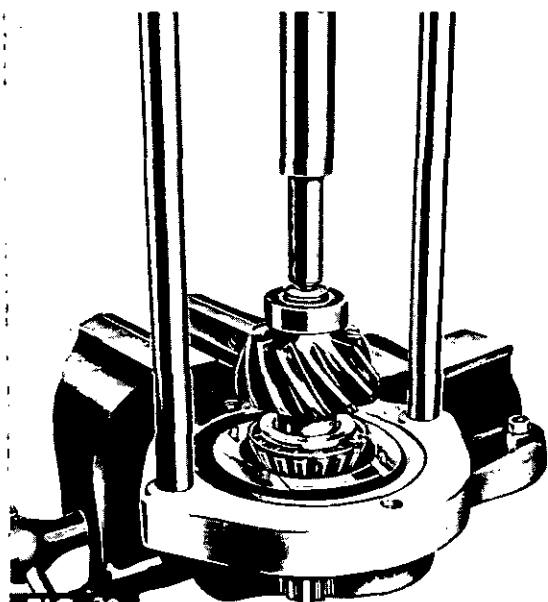
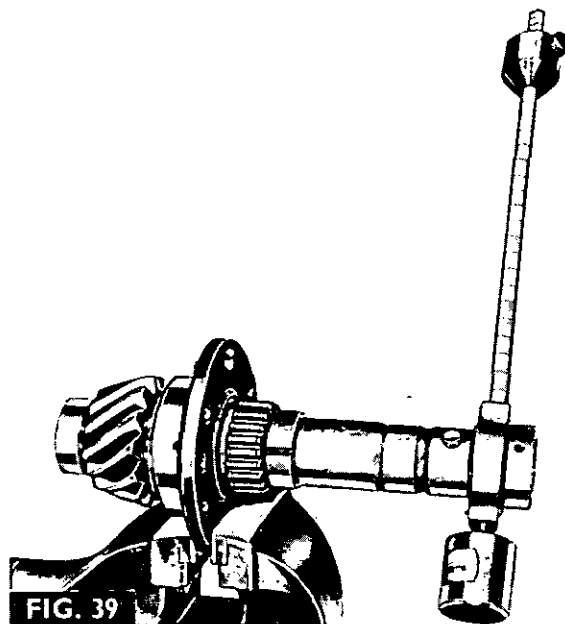

FIG. 38
FIG. 39
3. Fig. 38. Using the MF 200 hand press and adapters MF 200-23 and MF 200-25, press the bearing (61) on to the pinion.
4. Locate the pinion in its housing (59), then fit the front bearing cone (62), the splined hub (63) a new tab washer and the locking ring (66).
5. Fig. 39. Hold the housing in a soft faced vice, then assemble the CP4030 pre-load gauge as shown. Adjust the pre-load gauge to 0,23 kg.m (1.67 lb.ft - 20 lb.ins).